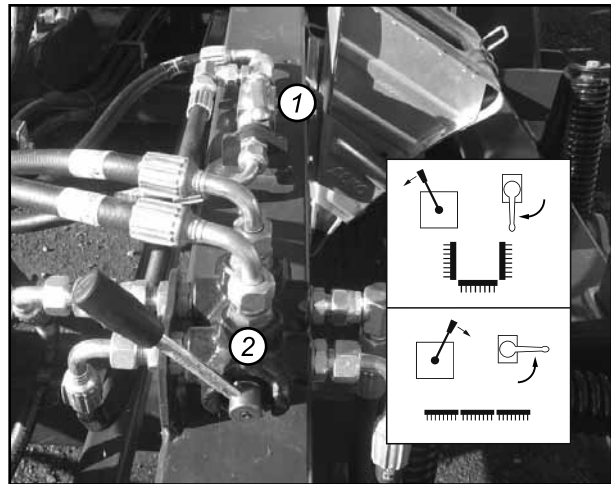

Fig. 2.02. Folding / Unfolding
4. Close the tap (1) and move the lever (2) to the right (refer to Fig. 2.02).
2. Open the tap (1) and move the lever (2) to the left (refer to Fig. 2.02).